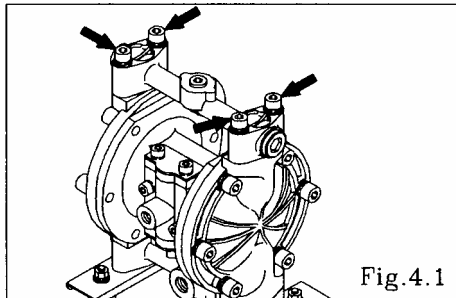

Fig.4.1
- Remove the 4 retainer bolts from the out manifold, and remove the out manifold. [Fig.4.1]